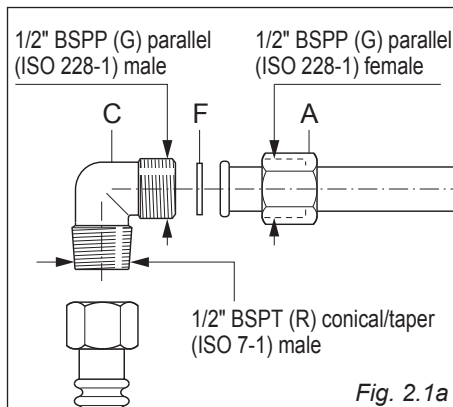
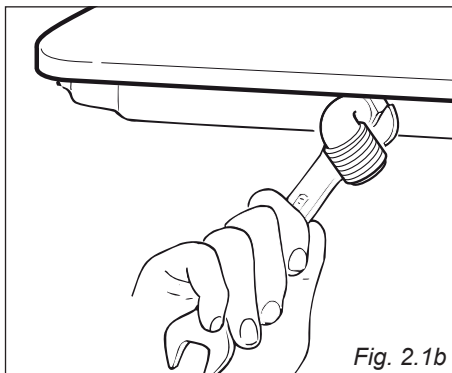

Fig. 2.1a
Fig. 2.1b
The fitting (fig. 2.1a) is made up of:
- The gas inlet union can be turned in the direction required after the elbow fitting “C” and nut “A” connection (fig. 2.1a) has been slackened (fig. 2.1b).
- The gasket “F” (fig. 2.1a) guarantees the seal of the gas connection. It is recommended that it be replaced whenever it shows even the slightest deformation or imperfection.